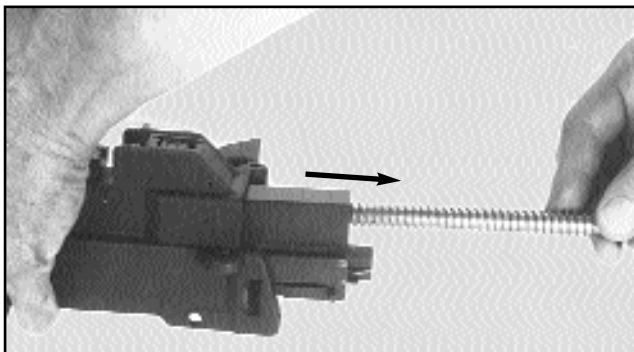

Fig. 27 Removing recoil spring assembly with bolt
- Pull back cocking lever and remove recoil spring assembly with bolt to the rear (Fig. 27).